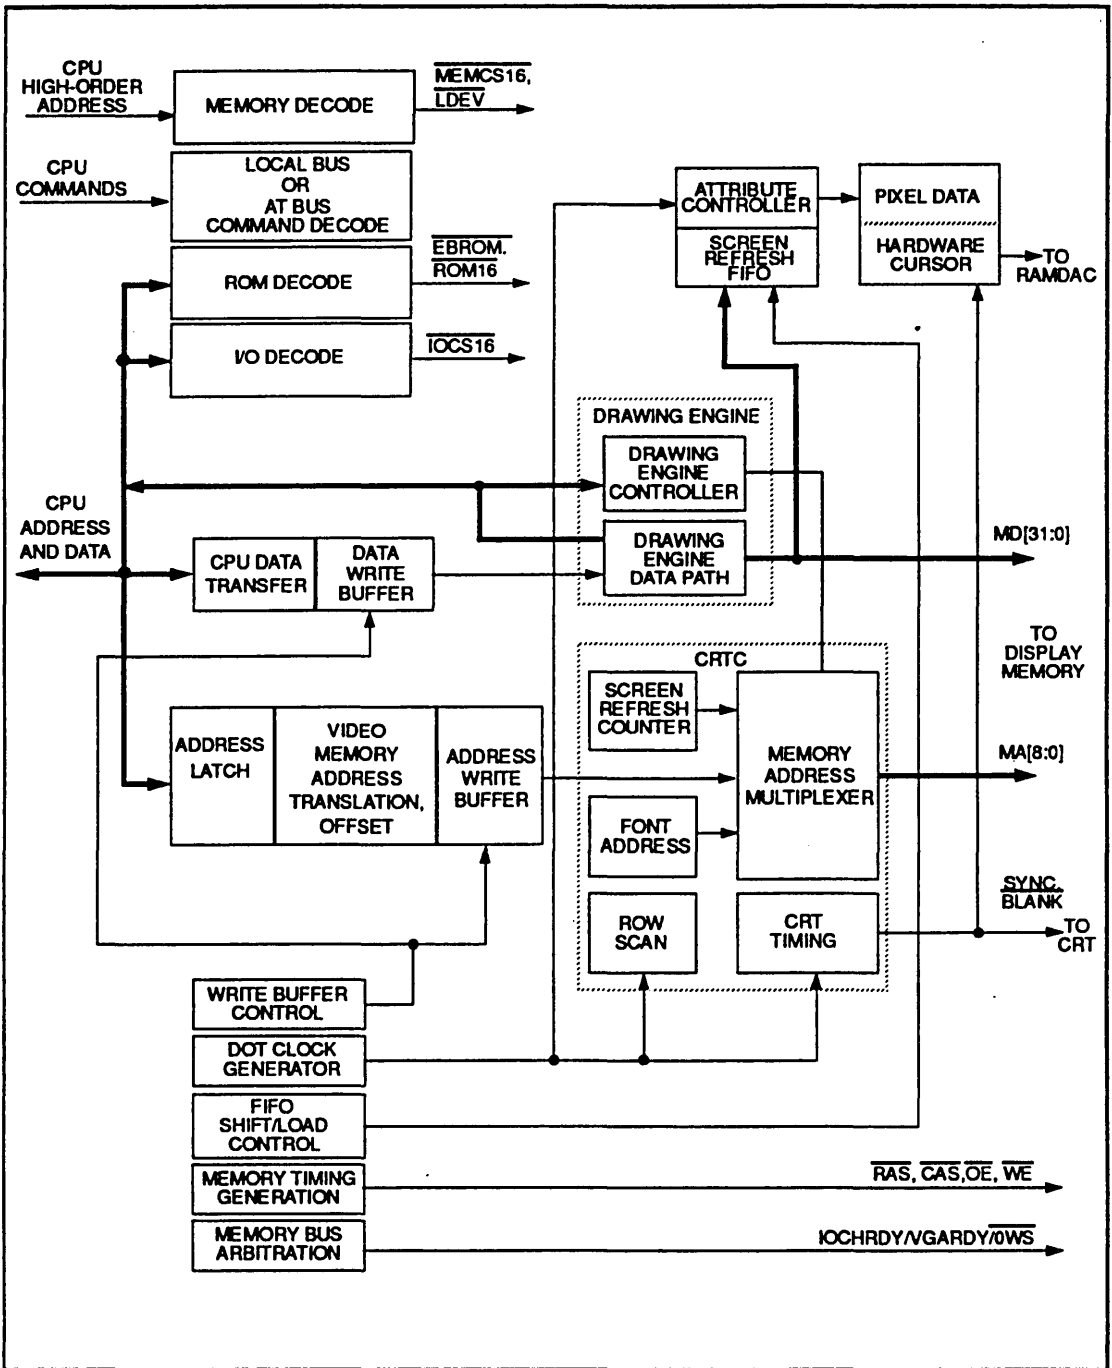

FIGURE 3-2. WD90C33 BLOCK DIAGRAM
- Figure 3-2. WD90C33 Block Diagram
The WD90C33 is designed to interface directly with the 386/486 CPU 32-Bit local bus (see Figures 3-2 and 3-3). It also complies with the VESA VL-Bus standard and provides the signals necessary to interface with the VESA connector. The WD90C33 also provides the interface for local bus RAMDAC, BIOS, and clock generator without using glue logic. While connected to the CPU local bus, the WD90C33 allows the user to choose whether to connect the RAMDAC to the local bus or to the system (AT) bus. The WD90C33 also supports RAMDAC write shadowing, and interface with the video BIOS. Selection of the 32-Bit local bus interface is determined by the state of Configuration register Bit CNF(11) during power-on or system reset as described in Section 9.